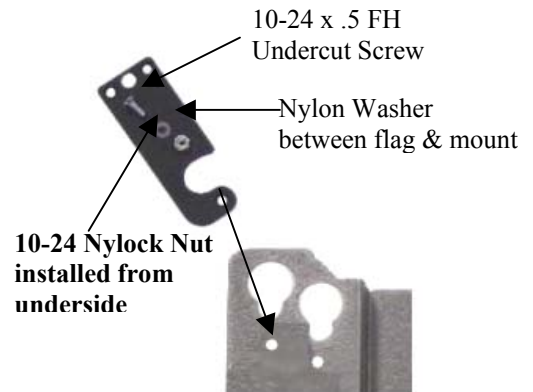

Figure 3
2. Secure latching flag to Plasma Static Mount using one 10-24 x .5 FH undercut screw, one Nylon washer, and one 10-24 Nylock nut (See Figure 3).